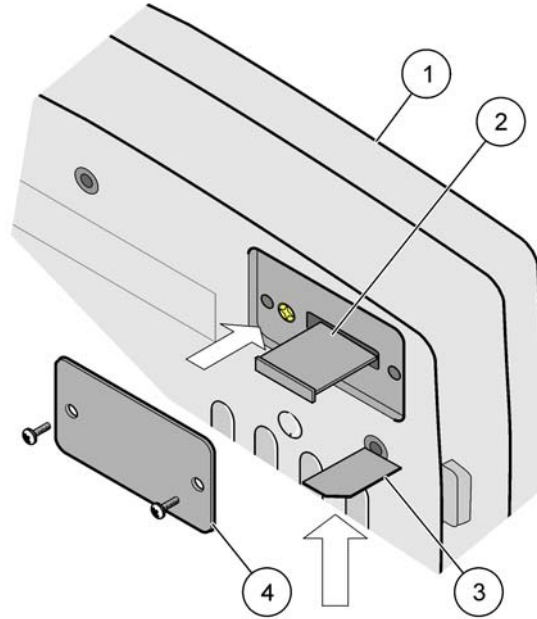

Figure 35 Insert the SIM card
3. Remove the SIM card cover from the back side of the display module (Figure 35).